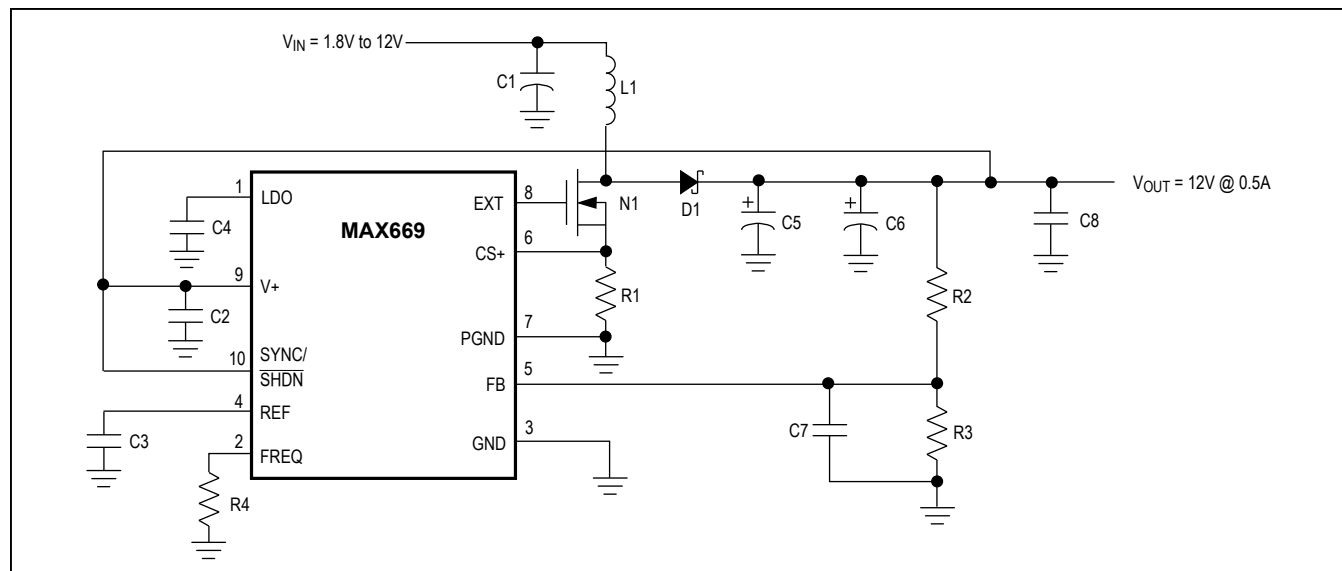
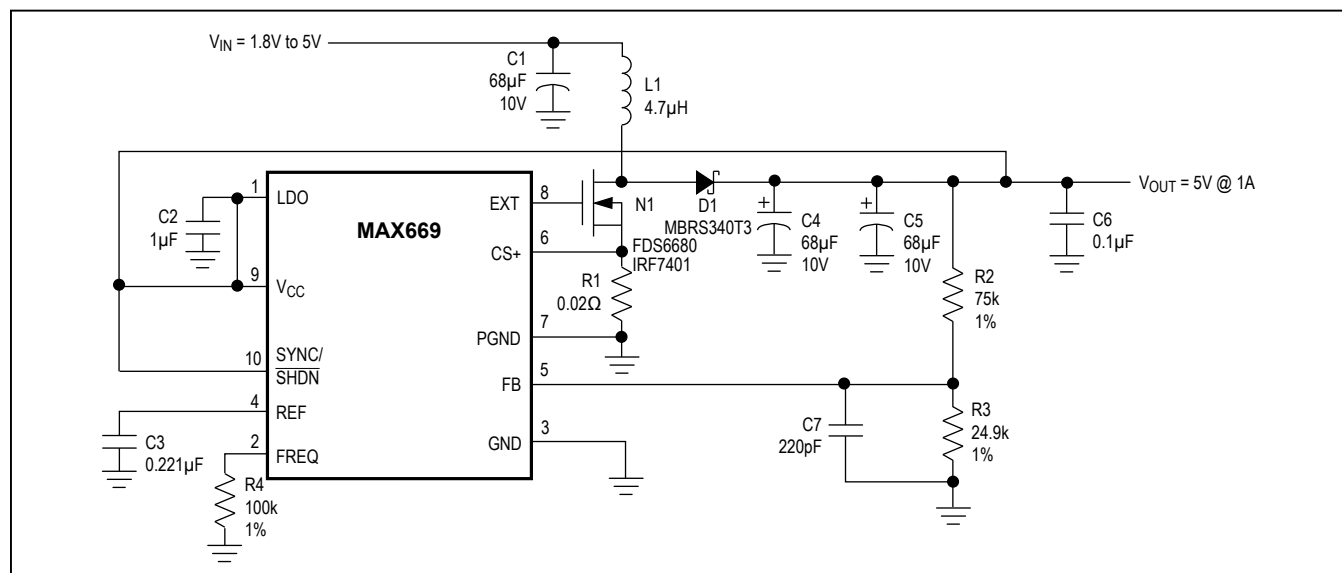
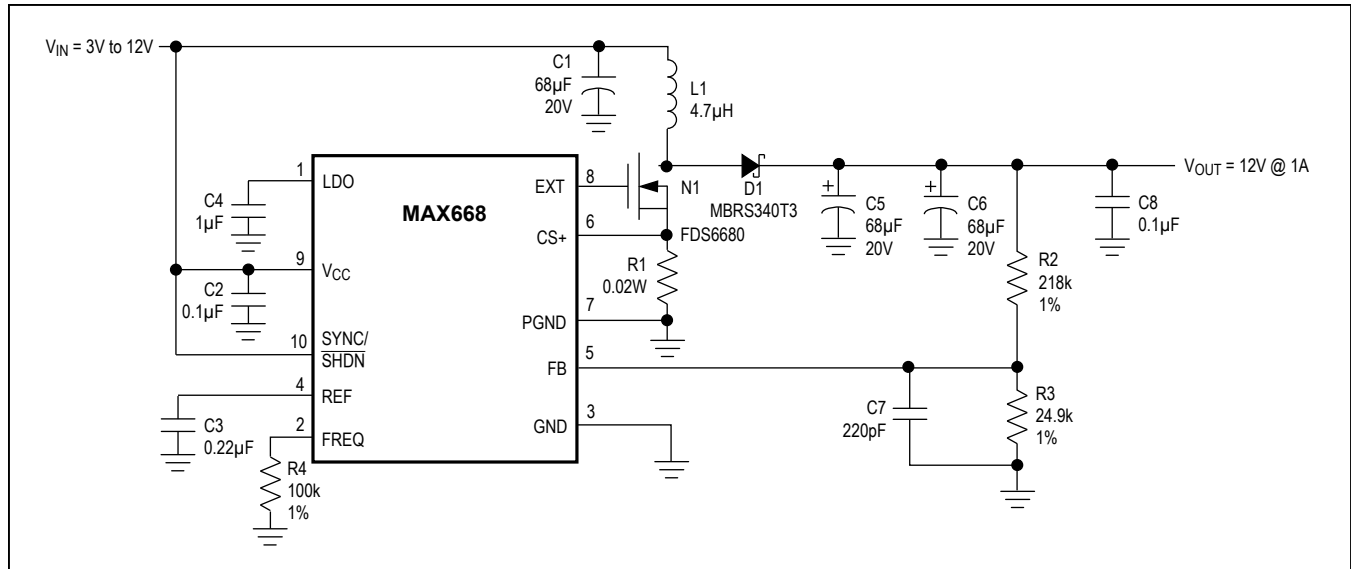
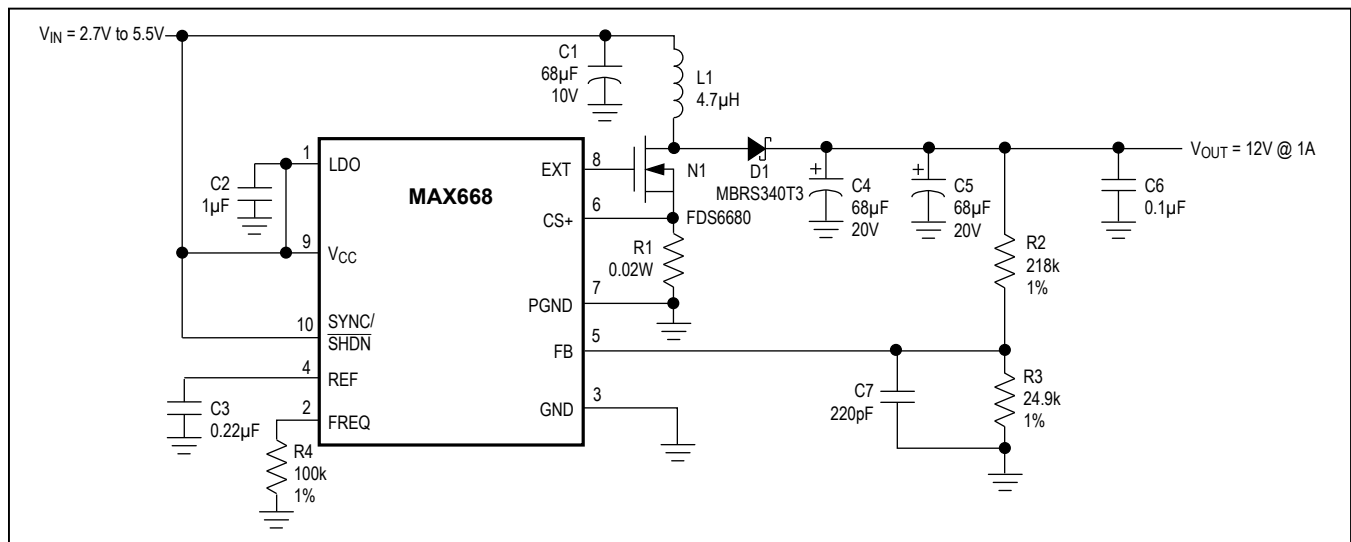

Figure 2. MAX669 High-Voltage Bootstrapped Configuration
Figure 3. MAX669 Low-Voltage Bootstrapped Configuration
Figure 4. MAX668 High-Voltage Non-Bootstrapped Configuration
Figure 5. MAX668 Low-Voltage Non-Bootstrapped Configuration
(Circuits of Figures 2, 3, 4, and 5; $T_A = +25^\circ\text{C}$; unless otherwise noted.)
Typical Operating Characteristics (continued)(Circuits of Figures 2, 3, 4, and 5; $T_A = +25^\circ\text{C}$; unless otherwise noted.)
V_{CC} and LDO allow a variety of biasing connections to optimize efficiency, circuit quiescent current, and full-load start-up behavior for different input and output voltage ranges. Connections are shown in Figure 2, Figure 3, Figure 4, and Figure 5. The characteristics of each are outlined in Table 1.
With V_{CC} connected to V_{OUT} , as in Figure 2, EXT voltage swing is 5V when V_{CC} is 5.2V or more, and $V_{CC} - 0.2V$ when V_{CC} is less than 5.2V. If the output voltage does not exceed 5.5V, the on-chip regulator can be disabled by connecting V_{CC} to LDO (Figure 3). This eliminates the LDO forward drop and supplies maximum gate drive to the external FET.
With non-bootstrapped operation, the IC is powered from the input voltage (V_{IN}) or another source, such as a logic supply. Non-bootstrapped operation (Figure 4) is recommended (but not required) for input voltages above 5V, since the EXT amplitude (limited to 5V by LDO) at this voltage range is no higher than it would be with bootstrapped operation. Note that non-bootstrapped operation is *required* if the output voltage exceeds 28V, since this level is too high to safely connect to V_{CC} . Also note that **only the MAX668 can be used with non-bootstrapped operation**.
If the input voltage does not exceed 5.5V, the on-chip regulator can be disabled by connecting V_{CC} to LDO (Figure 5). This eliminates the regulator forward drop and supplies the maximum gate drive to the external FET for lowest on-resistance. Disabling the regulator also reduces the non-bootstrapped minimum input voltage from 3V to 2.7V.
* For standard step-up DC-DC circuits (as in Figures 2, 3, 4, and 5), regulation cannot be maintained if V_{IN} exceeds V_{OUT} . SEPIC and transformer-based circuits do not have this limitation.
The output voltage is set by two external resistors (R_2 and R_3 , Figure 2, Figure 3, Figure 4, and Figure 5). First select a value for R_3 in the 10kΩ to 1MΩ range. R_2 is then given by:
where $R2$ and $R3$ are the feedback resistors (Figure 2, Figure 3, Figure 4, and Figure 5). If the calculated value for C_{FB} results in a non-standard capacitance value, values from 0.5 C_{FB} to 1.5 C_{FB} will also provide sufficient compensation.
In non-bootstrapped configurations (Figure 4, and Figure 5), the MAX668 can start up with any combination of output load and input voltage at which it can operate when already started. In other words, there are no special limitations to start up in non-bootstrapped circuits.
Figure 5 shows the MAX668 operating in a 5V to 12V boost application. This circuit provides output currents of greater than 1A at a typical efficiency of 92%. The MAX668 is operated in non-bootstrapped mode to minimize the input supply current. This achieves maximum light-load efficiency. If input voltages below 5V are used, the IC should be operated in bootstrapped mode to achieve best low-voltage performance.